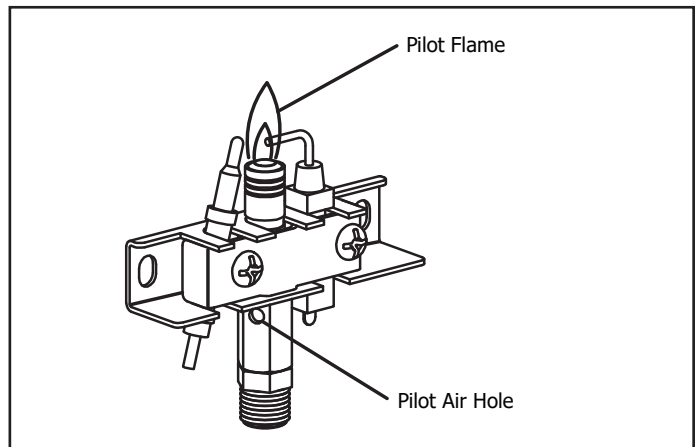

Fig. 5 - Pilot Assembly
- 4 And then remove the (3) acorn nuts and gently remove the burner assembly exposing the burner venturi and pilot assembly
- 7 Inspect and clean pilot (mounted to bracket) by using a vacuum or apply air pressure through the holes in the pilot indicated by the arrows in Figure 5.